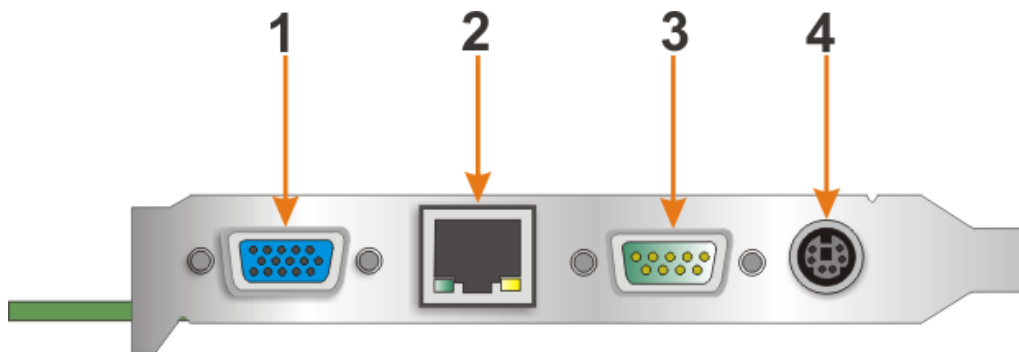

Figure 3-21: 3307880 On-board External Interface Connectors
Figure 3-21 shows the 3307880 CPU card external interface connectors. The 3307880 on-board external interface connectors are listed below and shown in Figure 3-21:
- CN Location:** See Figure 3-21 (labeled number 2)
**CN Location:** See Figure 3-21 (labeled number 4)
- CN Location:** See Figure 3-21 (labeled number 3)
**CN Location:** See Figure 3-21 (labeled number 1)